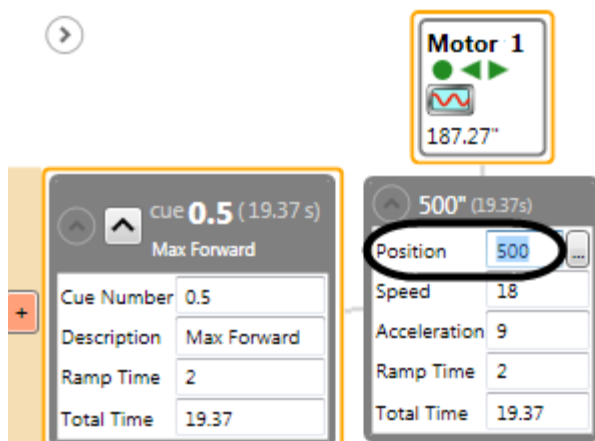

Figure 44
4. Change the **Position** number in the **Cue Grid** to match the value you entered as the **Max Forward Position**. (Figure 44).